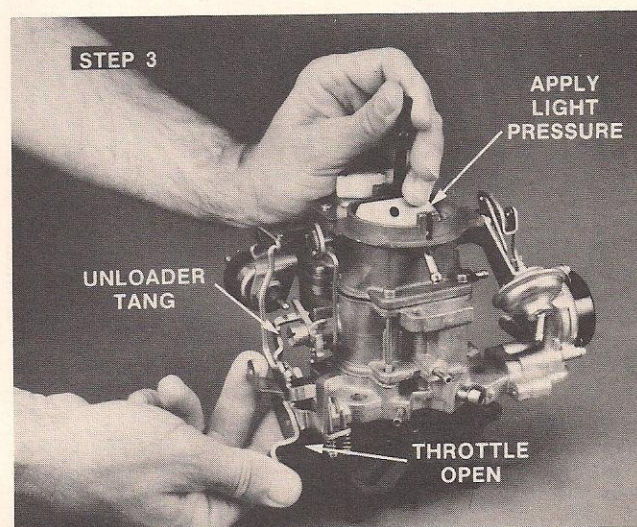

Figure 27, Setting the Choke Unloader
STEP 3, CHOKE UNLOADER SETTING ... SYMPTOMS: FLOODED ENGINE WON'T CLEAR; THROTTLE STICKS WIDE OPEN -- The choke unloader setting is made with the carburetor at wide-open throttle and the choke valve closed as far as possible without forcing it. Notice that the unloader tang pushes against the fast idle cam to open the choke part way to clear a flooded carburetor (figure 27).